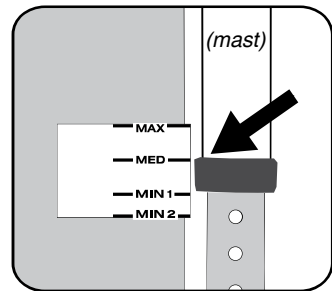

Figure 3: Move the calibration gauge so the medium mark lines up with the bottom of the mast.
d) Next, move the downhaul gauge at the bottom of the sail so that the medium mark of the gauge lines line up with the bottom of your mast (figure 3).